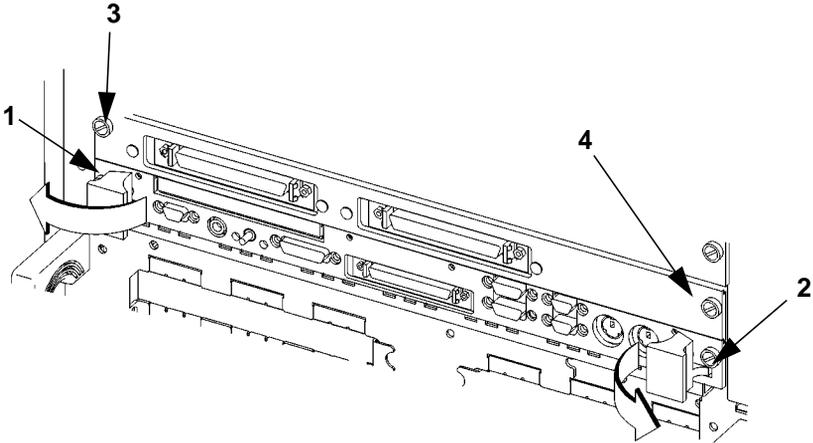

Figure 3-3
- 1 Loosen the captive screws at each end of the board computer that hold the computer in the VME card cage (in Figure 3-3, the screws are labeled 1 and 2 for a single-slot board computer, or 1 through 4 for a dual-slot board computer).